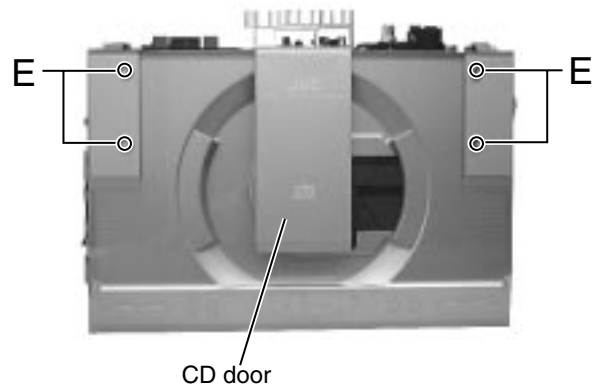

Fig.6
**■Removing the CD mechanism base assembly (See Fig.6 to 13)**